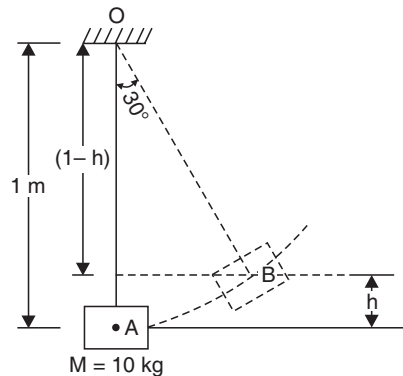

Fig. 9.5
**Sol.** Refer to Fig. 9.5
Now from Fig. 9.5,